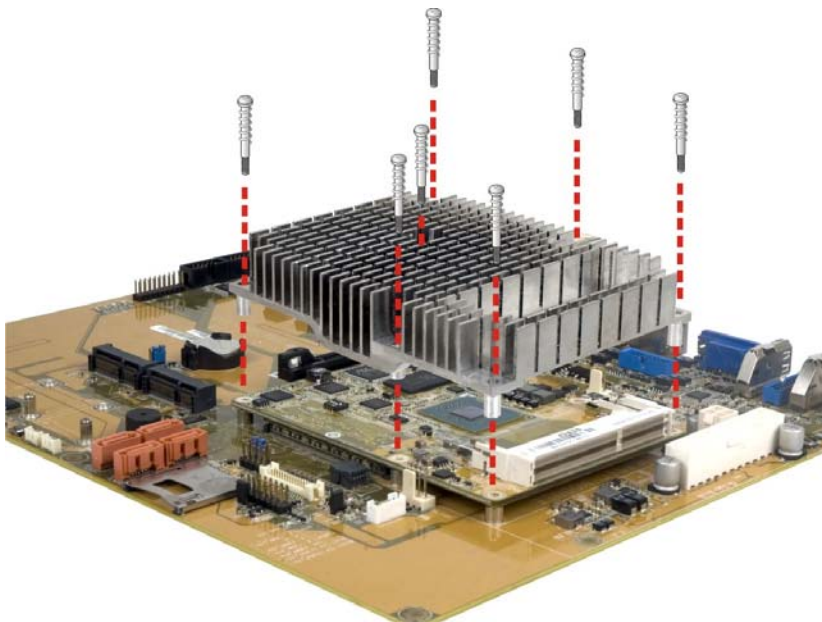

Figure 4-4: Secure the Heatsink
- Step 3:** Place the heatsink on the ICE-BT-T6, aligning the retention screw holes (Figure 4-4).
- Step 4:** Secure the heatsink to the ICE-BT-T6 and the baseboard with the supplied retention screws (Figure 4-4).